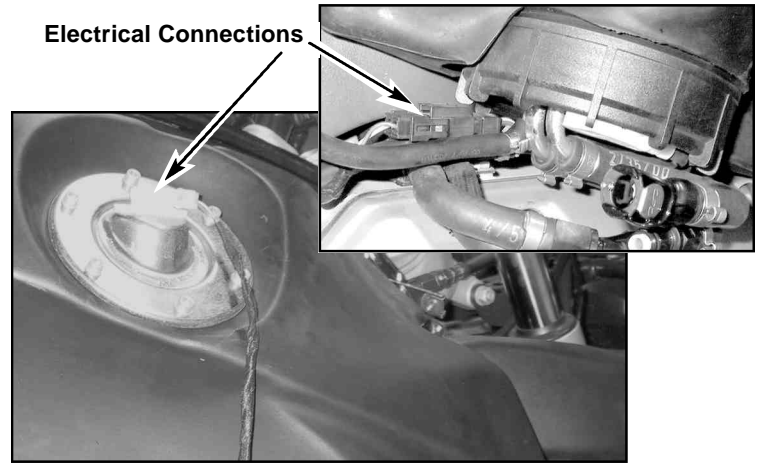

Figure 5
6. Disconnect the electrical connections at the fuel pump; lower right side of fuel tank, behind fuel hoses. And also at the fuel level sending unit; upper right side. **Figure 5.**